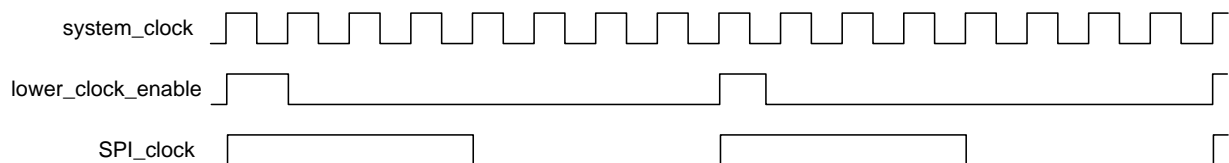

Figure 3 Start with a high SPI clock
- You could start with a high SPI clock signal, *Figure 3*
One way to do this is to use a SPI clock that starts high, *Figure 3*, and place the data on the line at one rising edge and then trigger it on the next rising edge. This is possible since the placing of the data is also triggered by the rising edge of the SPI clock which means that when we place the data on the line the current rising edge has already passed and it will not be triggered until the next rising edge.